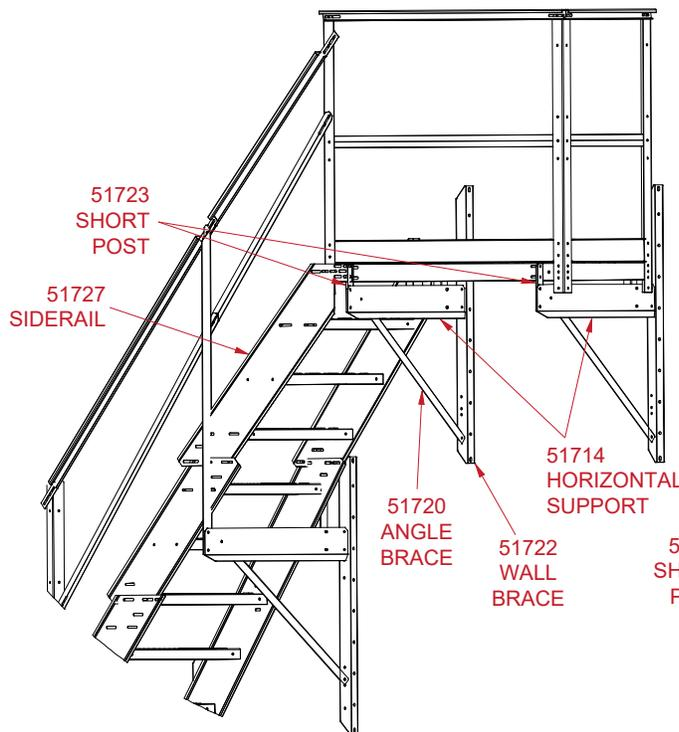

Fig 4 - Platform support, outside view
- Use 51723 Short Posts to support the platform(s) on the inside and outside. See Figure 4 and 5.